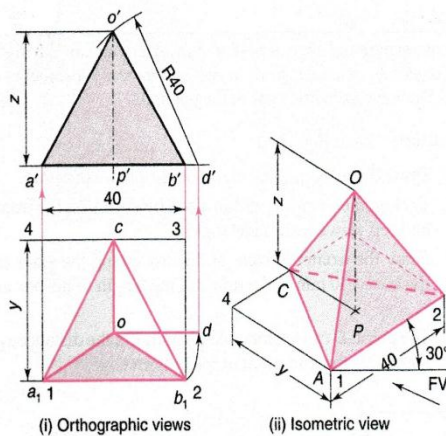

Fig. 13.30 Tetrahedron with an edge of base parallel to V.P.
**Solution** Refer Fig. 13.30
The height of the tetrahedron can be found as shown in Fig. 13.30 (i) and the required isometric view is shown in Fig. 13.30 (ii).